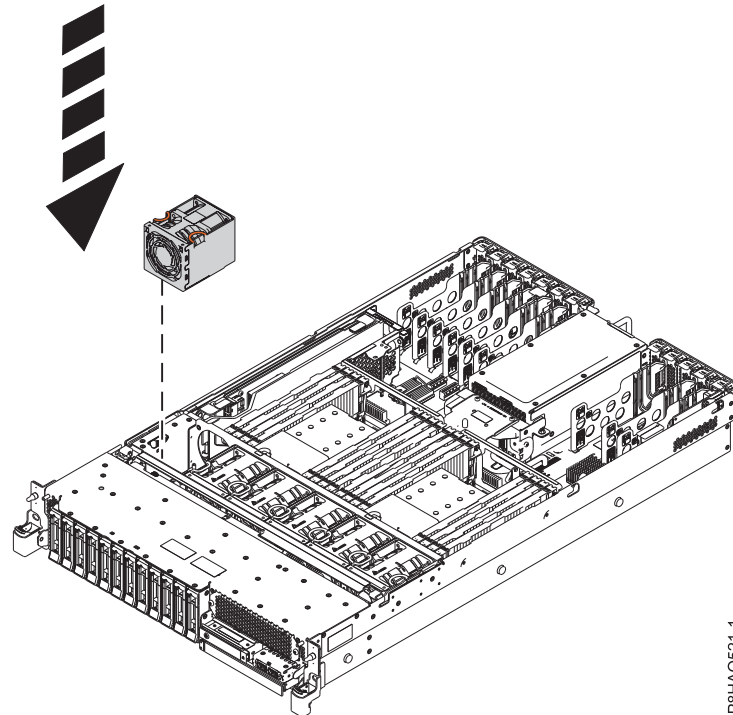

Figure 3. Replacing the fan
3. Squeeze together the terracotta touch points on the fan and lower the fan into the slot in the fan cage, as shown in Figure 3.
4. Release the squeeze on the terracotta touch points and push down on the fan to seat and then lock the fan. See Figure 3.